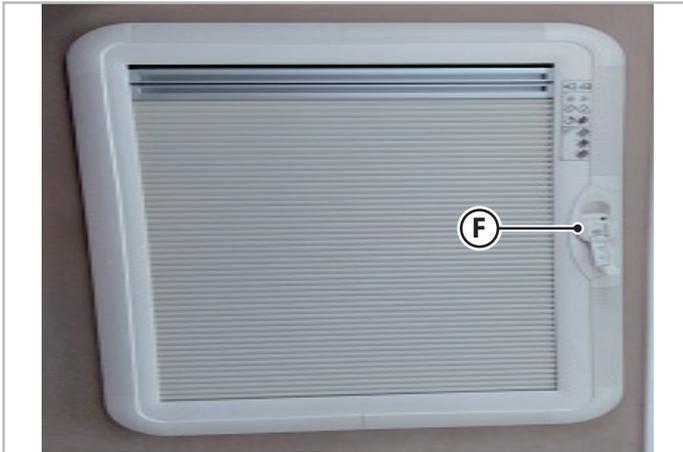

Fig.6.7 - Tilting skylight - Type B
Tilting skylight - Type B (Fig.6.7)
- Lift the safety handle (**F** - Fig.6.7) and turn it anticlockwise to raise the skylight to the desired position.